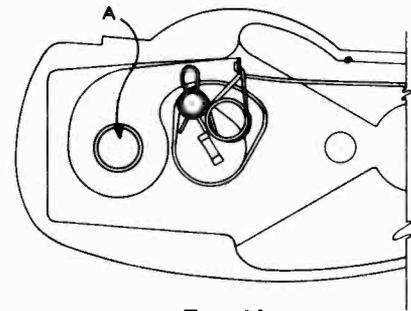

Fig. 11
3. Remove tension spring anchor from mounting stud A. (See Fig. 11.)